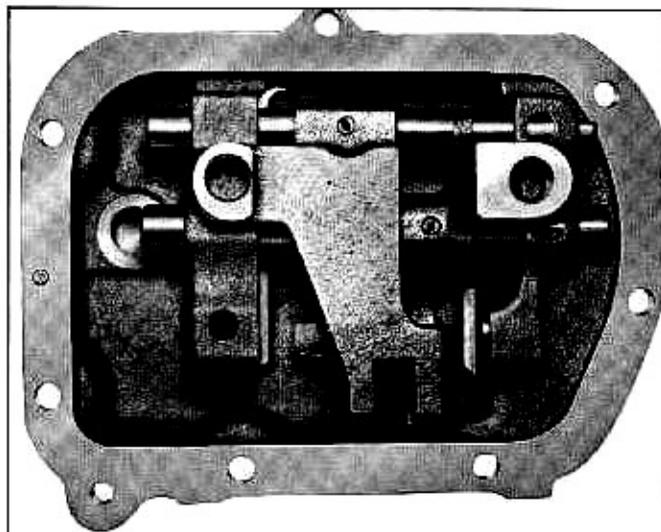

Fig. 9A—1st & Reverse Shifter Head & Shaft Installed to Cover
11. Line up holes in head and shaft; insert pin (fig. 9A).